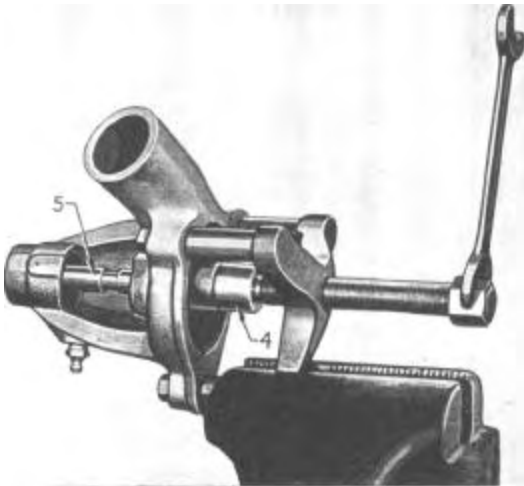

Figure 513—Installing Rear Bearing
14. Put rear bearing into housing from rear. Assemble pilot (4) to screw and push shaft (5) back into pilot (4) to act as a guide for the bushing. Tighten screw until rear of bearing is flush with rear of support. Back off screw and remove shaft. Figure 513.